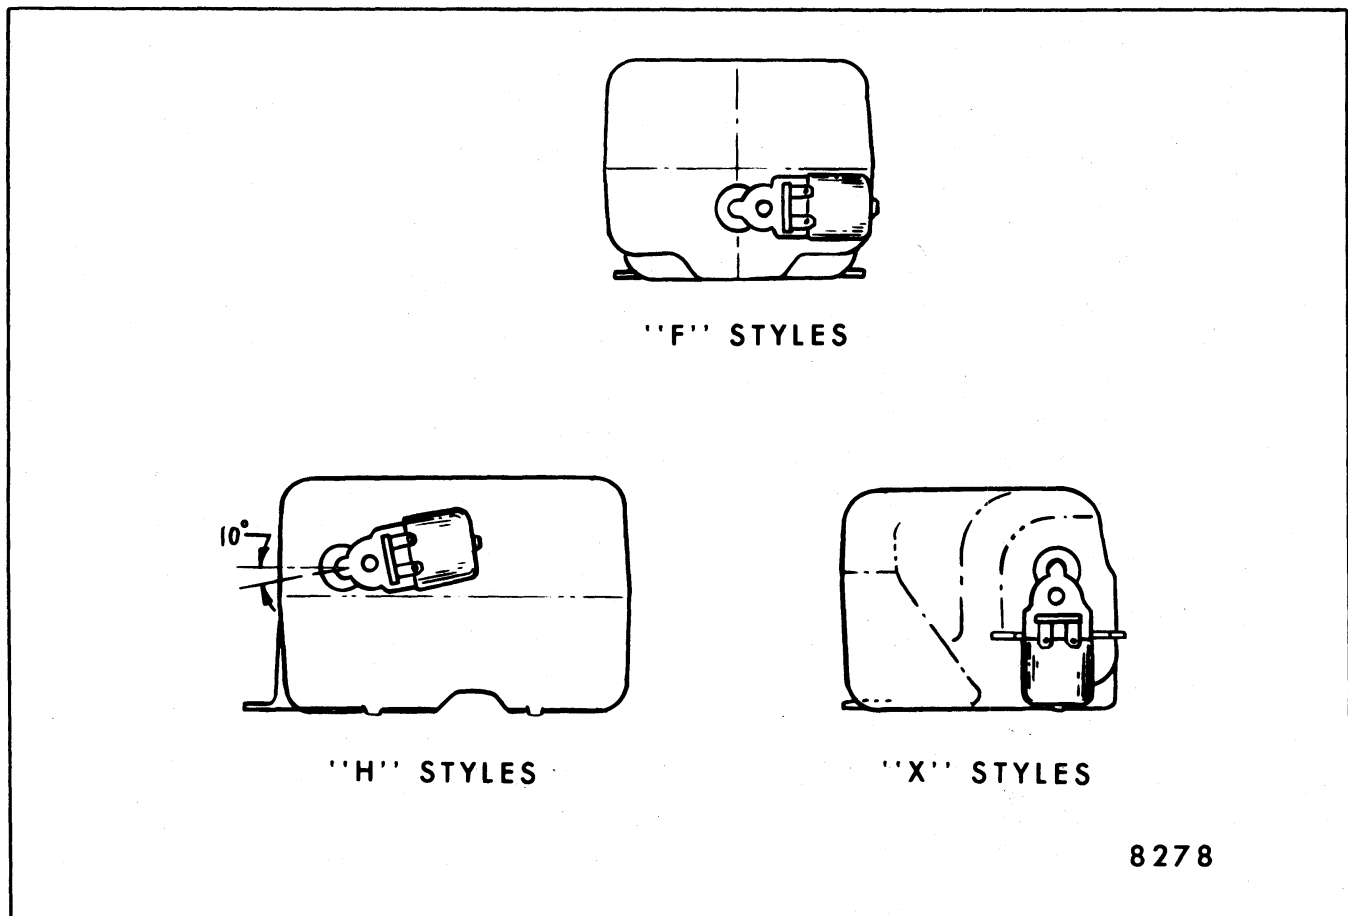

Fig. 2-99-Motor and Pump Assembly Positioning to Jar
3. Note installed position of motor and pump assembly in relation to bottom of jar (Fig. 2-99).